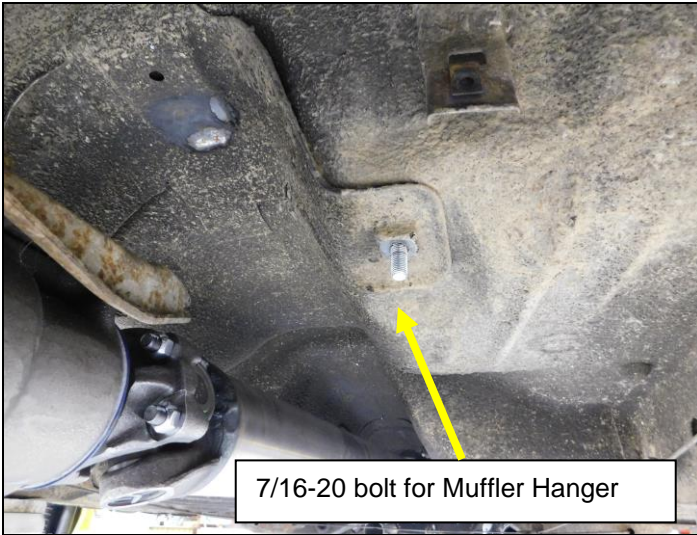

Figure 2
4. Replace the anchor bolt with the provided 7/16-20 x 1.5" bolt and tighten until the bolt just bottoms on the shoulder of the bolt or the seat belt anchor plate stops rotating. Then, back off ½ turn to allow the anchor plate to move. This will provide a convenient mounting point for the muffler hanger to be mounted (**Figure 2**).